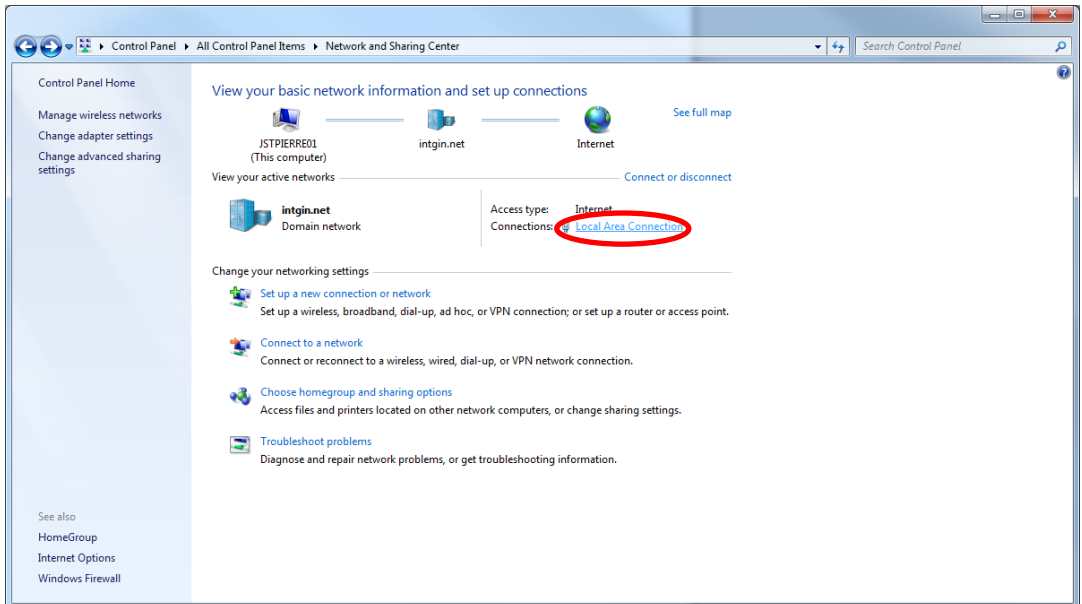

Figure 3. Select the Local Area Connection link
1. Select the Local Area Connection link as shown in Figure 3.